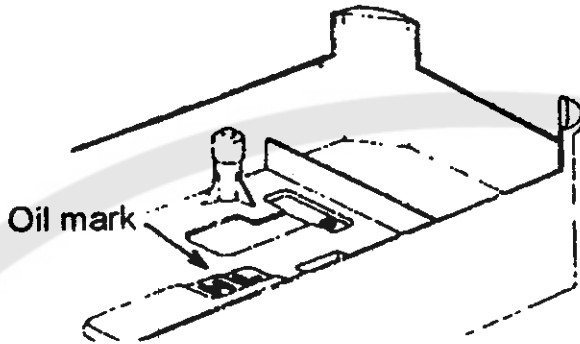
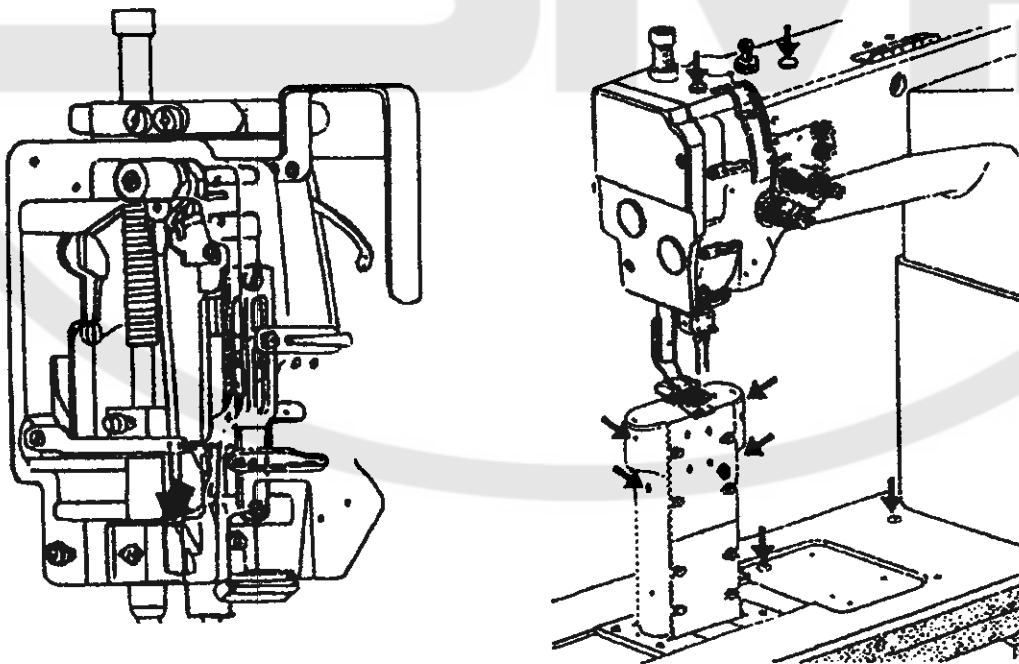
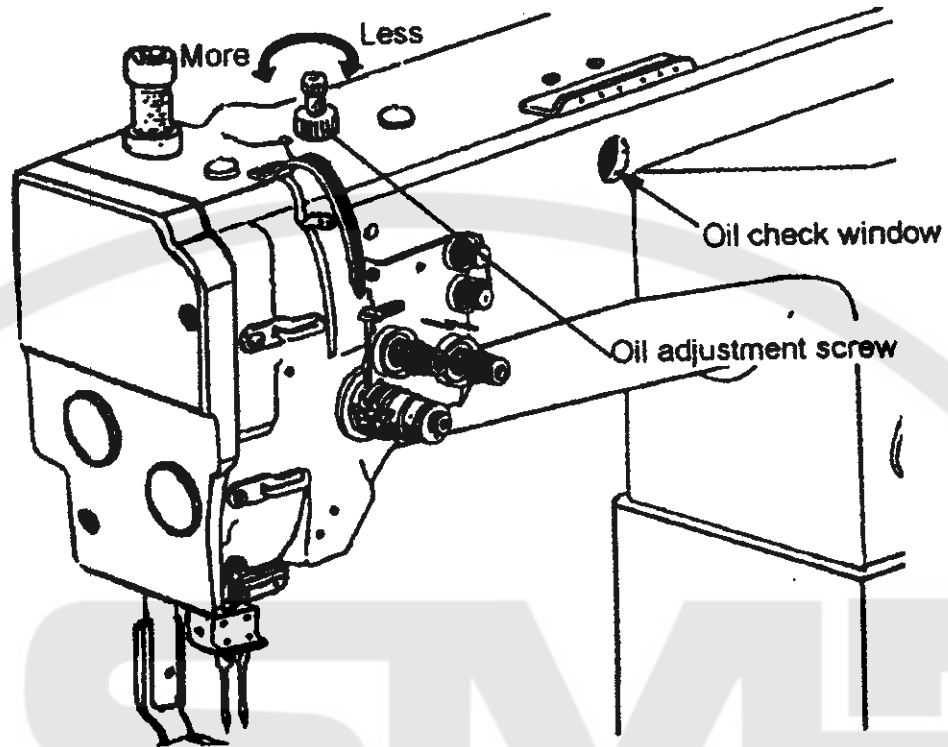

Fig.13
Fig. 14
Fig.15
17、 Lubrication (Fig.13、 Fig.14、 Fig.15):
- 1) Before starting operation, be sure to pour oil up to the position H of oil tank. If the oil below position L, replenish the oil supply up to position H. (Fig.13)
- 2) When a new sewing machine is first operated, or when a sewing machine which left out of use for a long period of time is operated, it will be necessary to oil through the oil holes after removing the rubber plugs shown below (the direction shown in arrows). (Fig. 14)
3) While operating the machine, check the condition of oil lubrication through the oil check window. The oil amount can be adjusted by oil adjustment screw. (Fig.15)